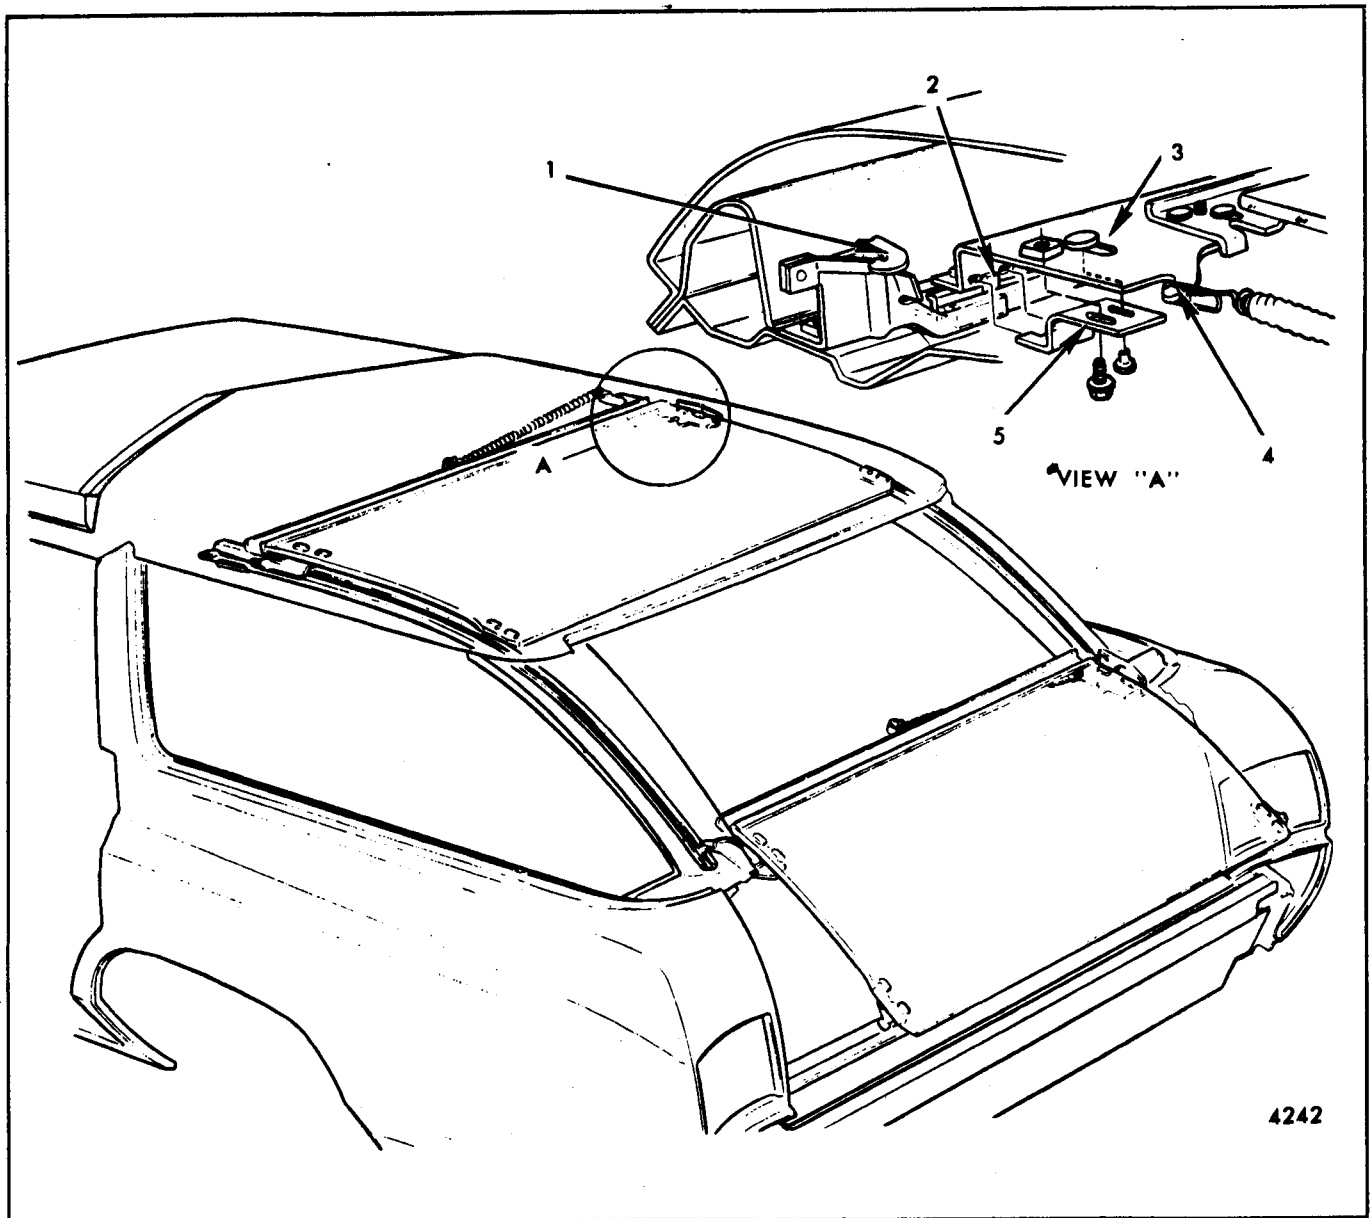

Fig. 9-8-Drive Cable Flag Retainer and Window Lift Spring Details
5. Through access hole described in Step No. 4, transfer window assist spring from retainer on window cam guide to hook on window right upper roller support (Fig. 9-8).